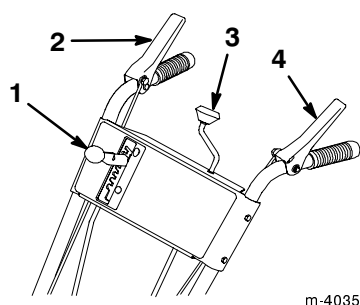

Figure 7
2. Move the speed selector (Fig. 7) on the control panel to the R_2 (Reverse) position.
4. Move the speed selector (Fig. 7) into fifth gear.